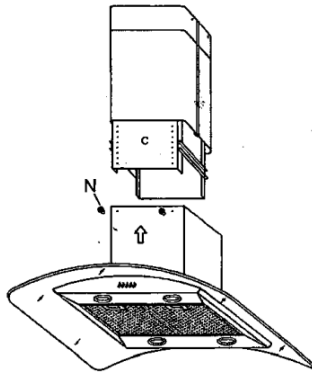

Figure 12
- Insert the suction unit inside the structure and set in 4 mounting hole, drive in 4 units screw N (Figure 12).